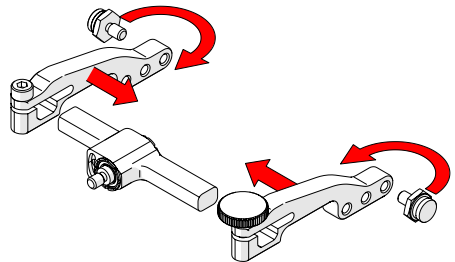

Fig. 81 - Attach arms and move buttons
4. Place the pivot buttons on the inside of the probe holder arms (Fig. 81) using a 3/8 in wrench (Fig. 28). Slide the arms onto the yoke and tighten the probe holder arm adjustment knob and the arm clamp screw.